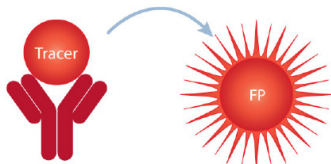

Figure 1. Transcreener® FP Assay Principle
The Transcreener® FP Assays are a single step, competitive immunoassay for direct detection of nucleotides with a far red fluorescence polarization (FP) readout. The reagents for all of the assays are a far red Tracer bound to a highly-specific monoclonal/polyclonal antibody. Nucleotide diphosphate or monophosphate produced by the target enzyme displaces the tracer from the antibody, leading to increased rotational freedom and results in a decrease in polarization (Figure 1). The use of a far red tracer minimizes interference from fluorescent compounds and light scattering. The Transcreener® FP Assays are designed specifically for HTS with a single addition, mix-and-read format.